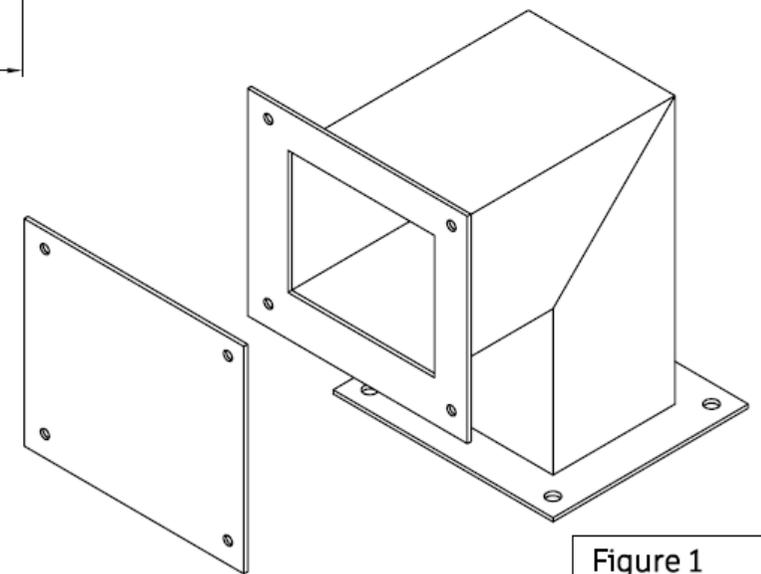

Figure 1
An engineering company needs to produce 25 rectangular ducts, shown in Figure 1, used in grain feed systems.
Plan the production of one sample rectangular duct component shown in Figure 1 that is attached to the assignment brief.
You must use the tungsten active gas shielded (TAGS) welding process for all welding specified in Figure 1.
Produce **one** rectangular duct component to the required standard and tolerance in Figure 1 that is attached to the assignment brief.
- Safely fabricate **one** rectangular duct to the specification in Figure 1 using the tungsten active gas shielded (TAGS) welding process.